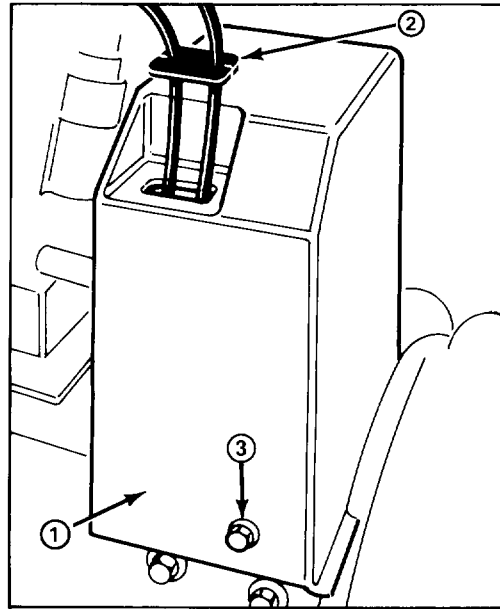

Figure 3
8. Mount upper belt cover to engine frame with (3) 1/4-20×1/2" lg. flange head capscrews (Fig. 3).
9. Slide cable cover onto cables and into hole in belt cover (Fig. 3).